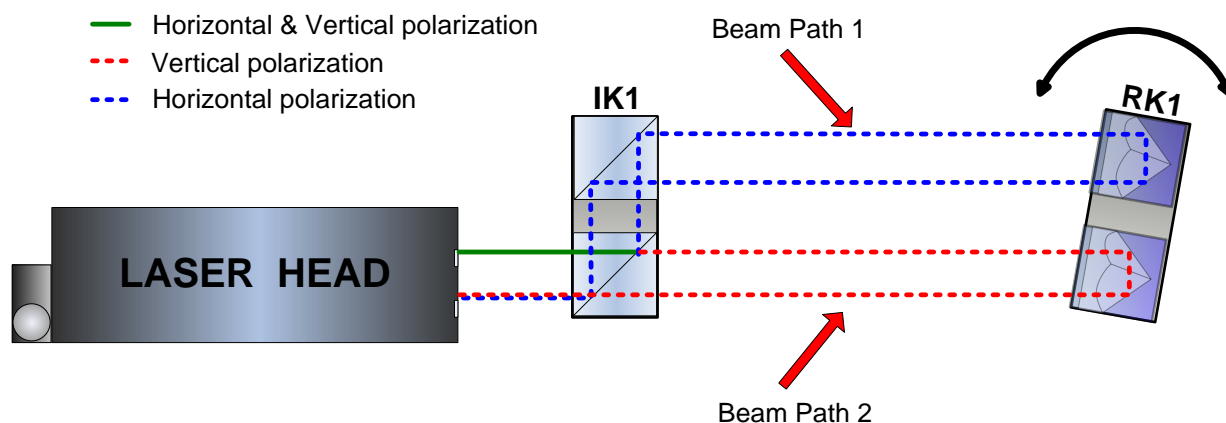

FIG.2.2. ILLUSTRATION OF THE PRINCIPLE OF OPERATION - ANGULAR OPTICS
The operation of the HPI-3D with the angular optics used is shown in the figure 2.2. The laser outputs the laser beam consisting of two polarizations: Horizontal (H) and Vertical (V). The IK1 splits the beam into two parts. Both beams are directed into the measurement path but are